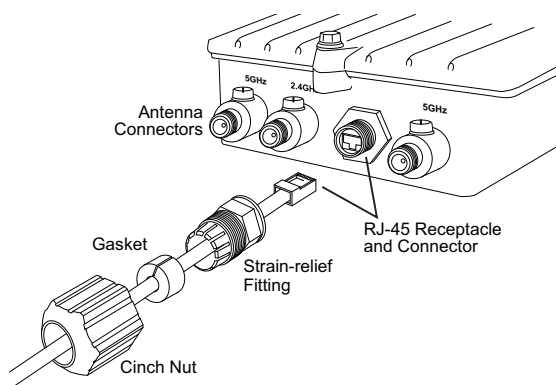

Figure 6. Watertight PoE Fitting
7. Screw the cinch nut onto the strain-relief fitting until it is well seated against the gasket, forming a watertight seal. See Figure 6.